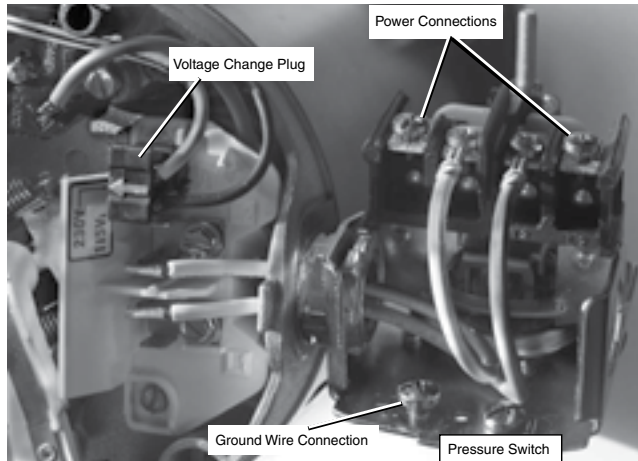

Figure 5: Voltage set to 230 V, Plug Type
4. Attach the incoming power leads to the two outer screws on the pressure switch as shown in Figure 5.
5. Attach the ground wire to one of the grounding connections, shown in Figure 5.
1. Connect the ground wire first as shown in Figure 5. The ground wire must be a solid copper wire at least as large as the power supply wires.
4. Connect the power supply wires to the pressure switch as shown in Figure 5.